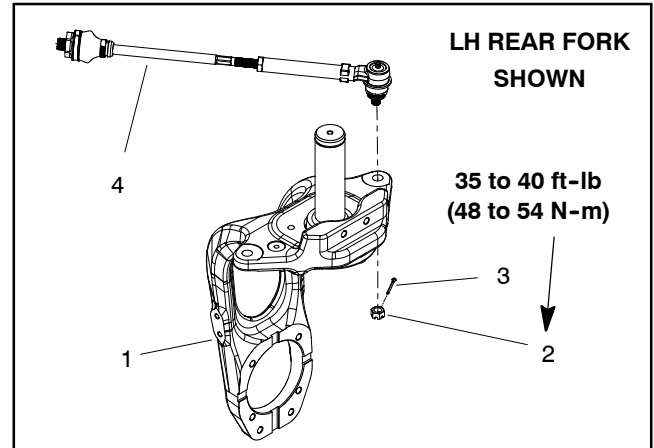

Figure 20
7. Remove cotter pin and slotted hex nut that secure tie rod end to the steering fork (Fig. 20). Separate tie rod end from the steering fork.
8. Remove two (2) cap screws (item 34) that secure bulkhead bracket (item 32) to steering fork.
9. Remove four (4) cap screws that secure wheel motor and brake support to steering fork. Slide wheel motor (with hydraulic lines attached) and brake support from steering fork. Carefully, position wheel motor assembly away from steering fork taking care to not damage hydraulic lines.